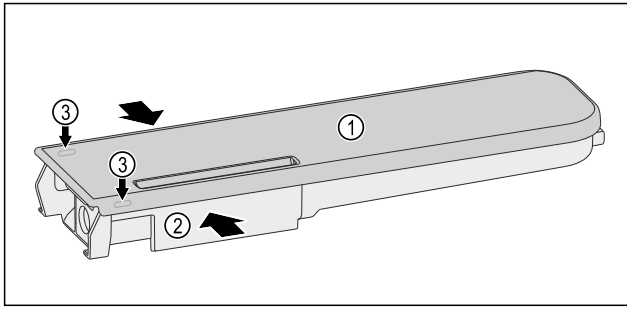

Fig. 173
- ▶ Push the water tanks Fig. 173 (2) together, leverage the cover Fig. 173 (1) carefully over the latching tabs Fig. 173 (3) and lift it up.
- ▶ Move the cover Fig. 173 (1) slightly forwards and back, and remove to the top.